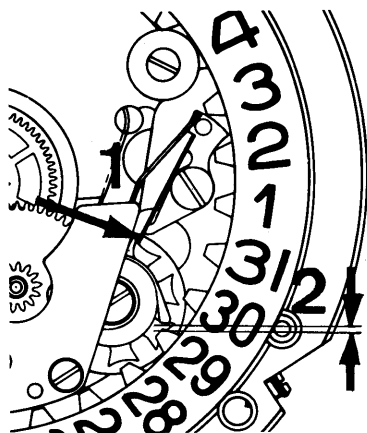

Fig. 9
Every 3 hours, the driving finger which is solid with the minute wheel causes the date-indicator driving wheel to move forward one step. About half an hour before the date changes (fig. 9), the unlocking finger mounted on the driving wheel attacks the unlocking spring which is solid with the jumper (1). At that moment, the driving spring is not yet touching the indicator tooth (2).